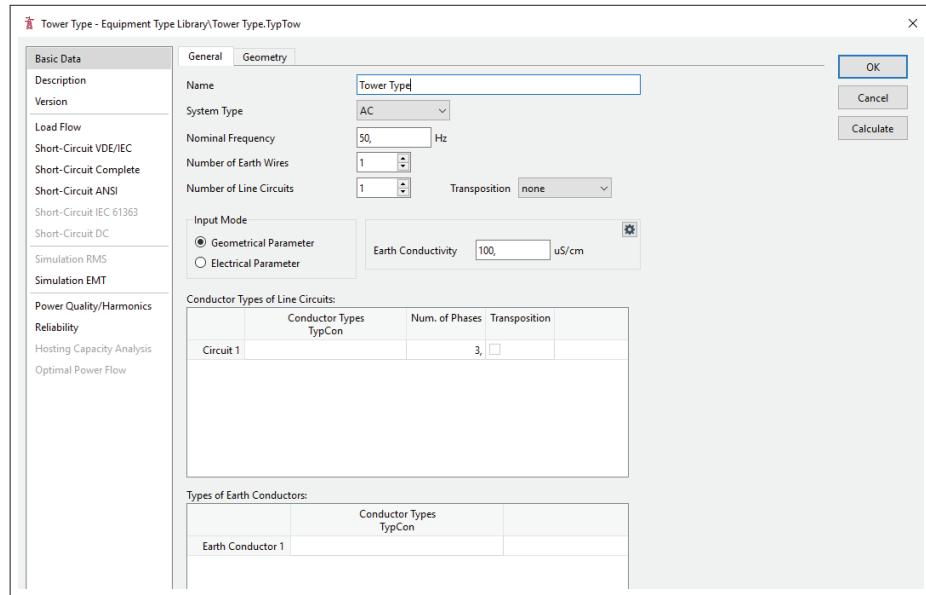

Figure 11.3.3: Tower Type (*TypTow*)
3. On the edit dialog of the tower type, shown in figure 11.3.3, the number of circuits and earth wires should be defined. Then the conductor types should be selected, by double clicking on the *TypCon* field.